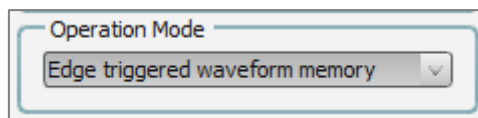

Figure 63. ETWM mode
2. Set the operation mode to ETWM mode (see Figure 63).